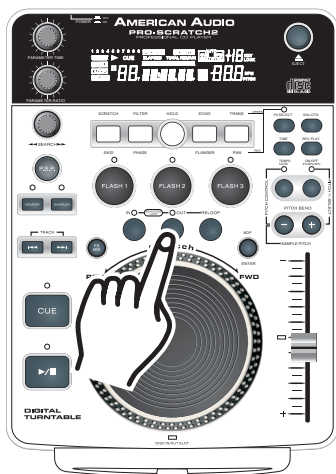

Figure 26
- 4) The red **MEMORY BUTTON (9)** LED will turn off, when your sample is locked into memory.
- 5) At this point your sample has been stored into memory. The original loop you used to create the sample will remain playing until the **OUT BUTTON (32)** is pressed (Figure 26).
- 6) Your sample can now be recalled at any time even when the unit is in **PAUSE MODE**. To recall the sample be sure the sample function is on, by pressing the **SAMPLE BUTTON (8)** until the red sample button LED turns on. To play your sample in a continuous loop leave the sample function on. To play your sample just once, turn the sample function off immediately after initiating your sample. With the sample function on the sample will continue to play until the sample function is turned off.
7) Important Notice: If you try to activate your sample without turning the sample function on, the **FLASH BUTTON (8)** will act as cue points!